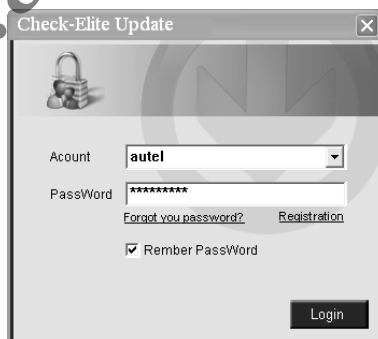

Figure 8.2
4. Run the update option in **MOT Pro PC Suit** software. Wait for the Log In window to pop up. (Figure 8.2)